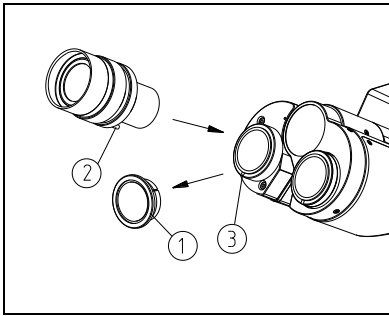

Fig.9
- (1) Take down the cover of eyepiece tube ① (See Fig. 9).
- (2) Insert the eyepiece into the eyepiece tube, until touch the bottom.
**Note:** if there is position screw on the eyepiece, match the position screw ② to the groove ③ on the eyepiece tube, and insert the eyepiece into the eyepiece tube, until touch the bottom.